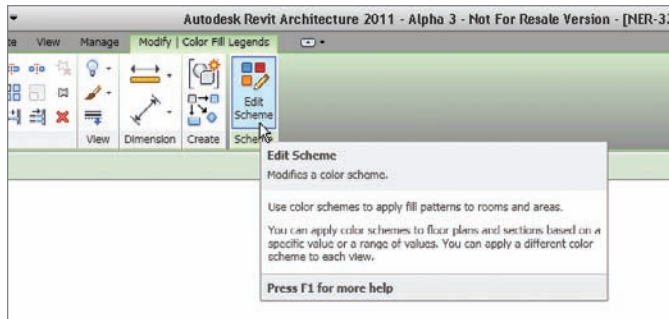

FIGURE 15.23 Proceeding to edit the scheme
11. Click the Edit Scheme button on the Modify | Color Fill Legends tab, as shown in Figure 15.23.